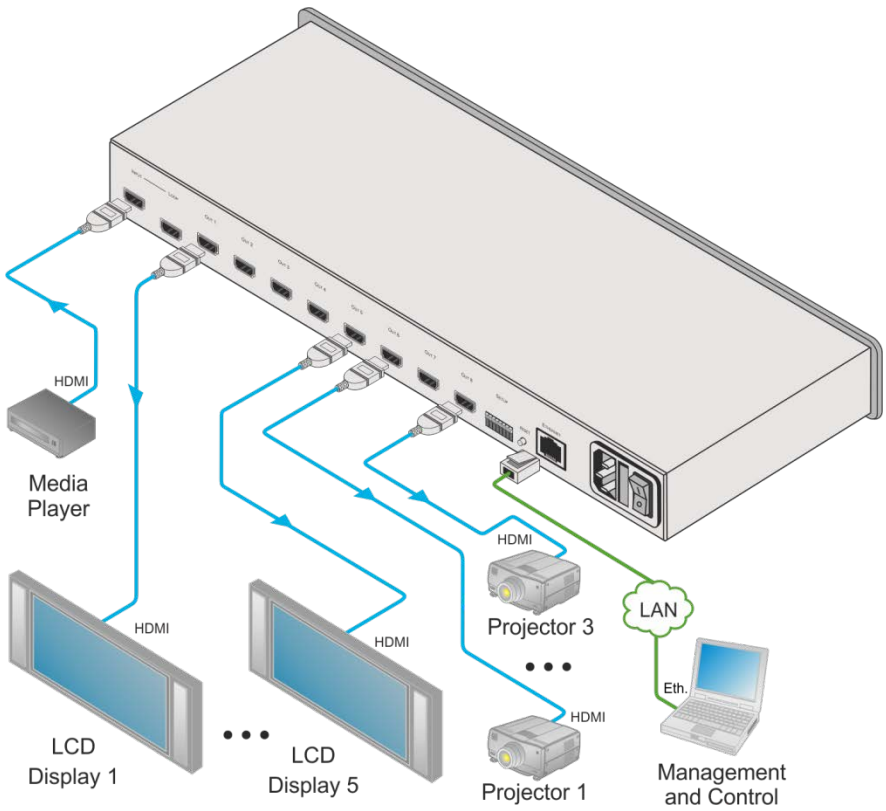

Figure 4: Connecting the VCO-8 / VCO-16
To connect the **VCO-8 / VCO-16**, as illustrated in the example in Figure 4:
4. Connect the power cord (not shown in Figure 4).